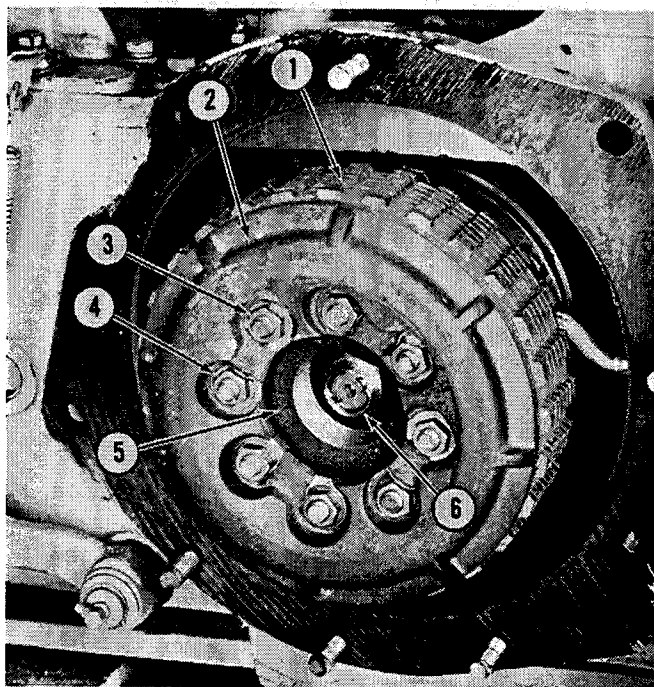

Fig. 5 — STEERING CLUTCH ASSEMBLY
2. Remove pressure spring retaining nuts and safety locks, Nos. 3 and 4, Fig. 5.
3. Remove pressure plate, No. 2, Fig. 5.
5. Loosen center reduction shaft nut, No. 6, Fig. 5.